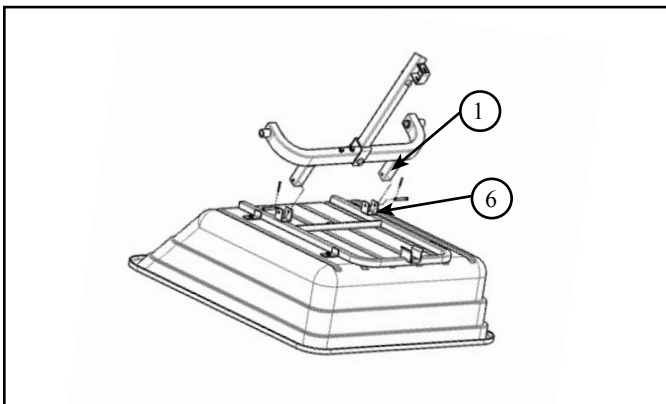

Figure 3.12- Align Axle Frame With Bed Frame
1. Align axle frame (1) with bed frame (6) pivot holes. *Refer to Figure 3.12*